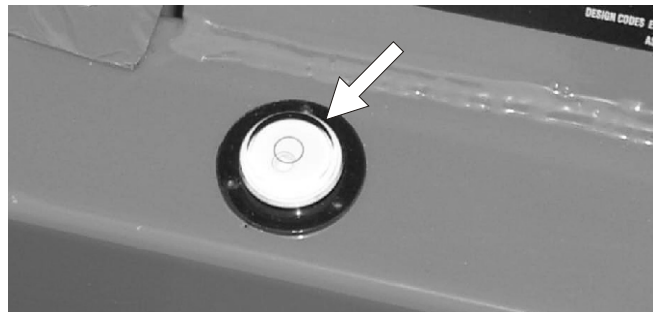
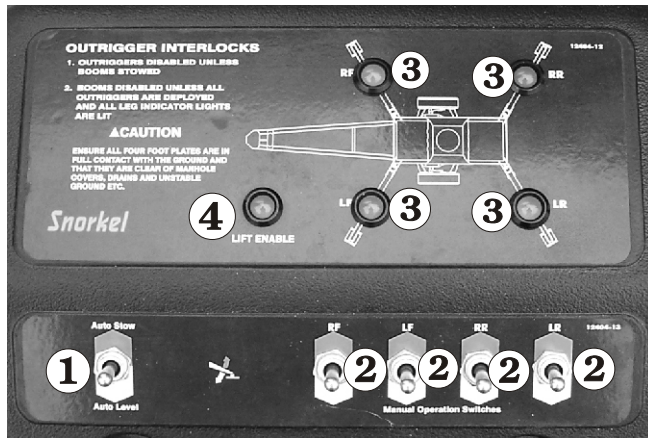

Figure 8.4
Figure 8.5 - Auto Level Controls
Lower the rear stabilisers and level the machine using the level bubble (see Figure 8.4) adjacent to the control levers.
1. Operate each switch ② (see Figure 8.5) to raise or lower each stabiliser one at a time. Use the level bubble (see Figure 8.4) to check the machine is level.